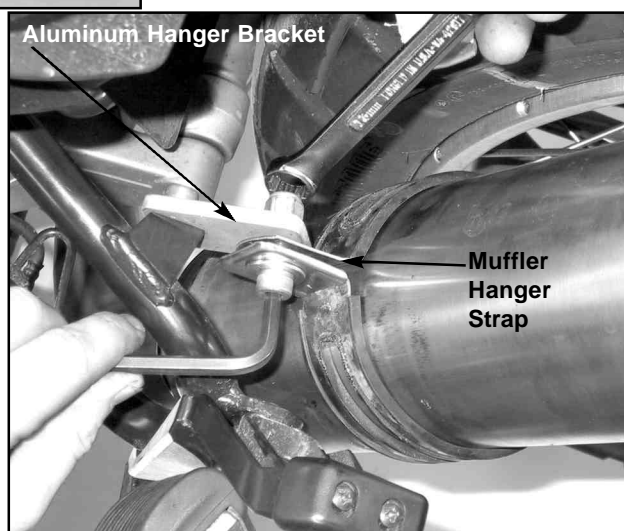

Figure 1
4. Disconnect the Muffler Hanger Strap at the Hanger. **Figure 1.**
6. Remove the aluminum Hanger Bracket. **Figure 1.**